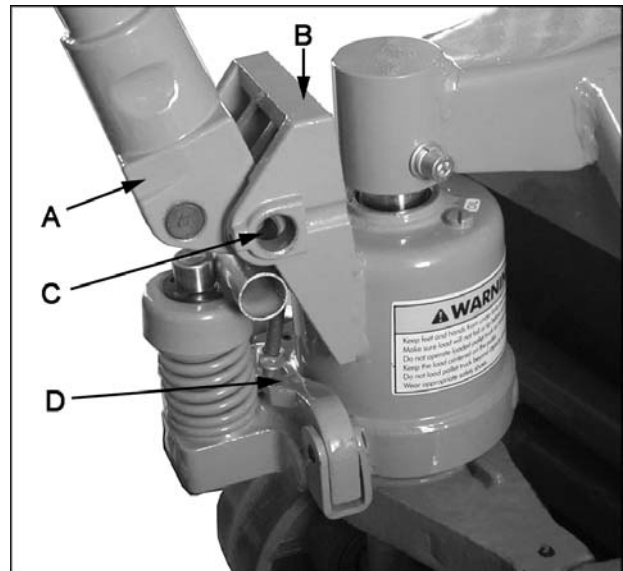

Fig 1
1. Insert the base of the handle (A, Fig. 1) into the pump bracket (B, Fig. 1).
2. Align the holes (C, Fig. 1) at the base of the handle with the holes in the pump bracket.
3. Using a screwdriver, pry the cam (D, Fig. 1) up and slip the bolt head under the notch in the cam. **Do not adjust the nut.**